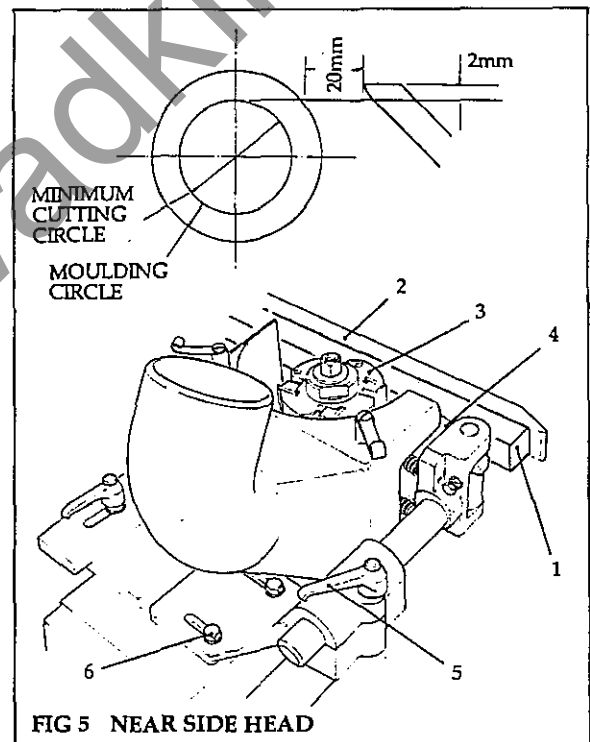

FIG 5 NEAR SIDE HEAD
#### Near Side Head (Fig 5)
- a. Release locking handle (13).
- b. Rotate handscrew (15) clockwise to advance the spindle or anticlockwise to retract the spindle.
- c. Refasten locking handle (13).
(3) Set the chipbreaker (4) as follows:
- b. Release the locking handle (5)
- c. Adjust the chipbreaker (4) so that it clears the smallest cutting circle by approximately 2mm (Fig 5).
- d. Refasten the locking handle (5).
- e. Unscrew the bolts (6) and adjust the chipbreaker (4) to suit the cutterblock diameter so that it clears the cutterblock by 20mm (Fig 5).
- f. Retighten the bolts (6).